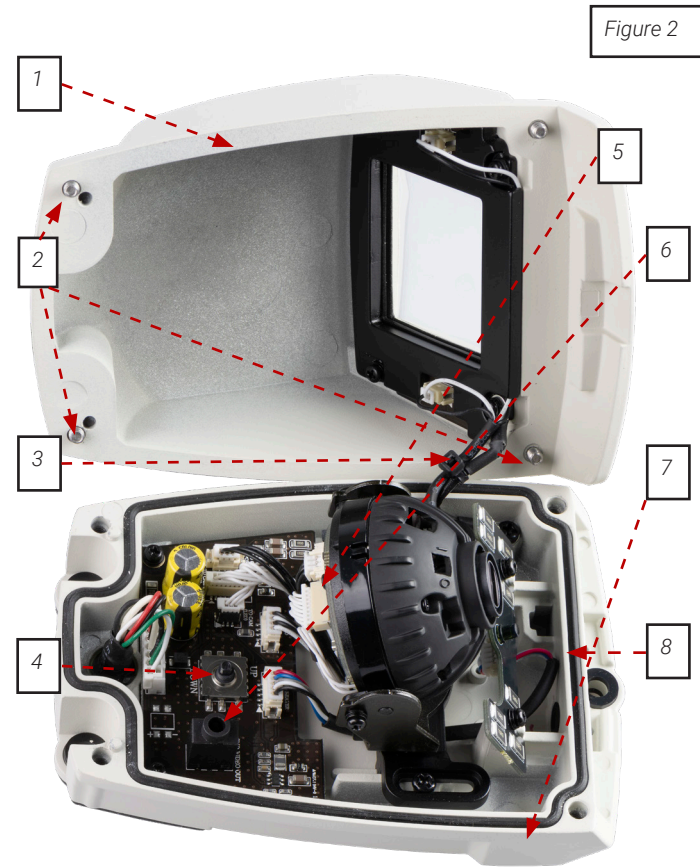

Figure 2
2. Use the security key to tighten the four captive locking screws. See 3, 7, and 8 in figure 2.
1. Using the security key supplied with the camera, loosen the four captive screws on the housing. See Figure 2.
2. Connect the supplied local video out adapter cable's 3.5mm audio plug to the camera's Local Video Out socket. See figure 2.